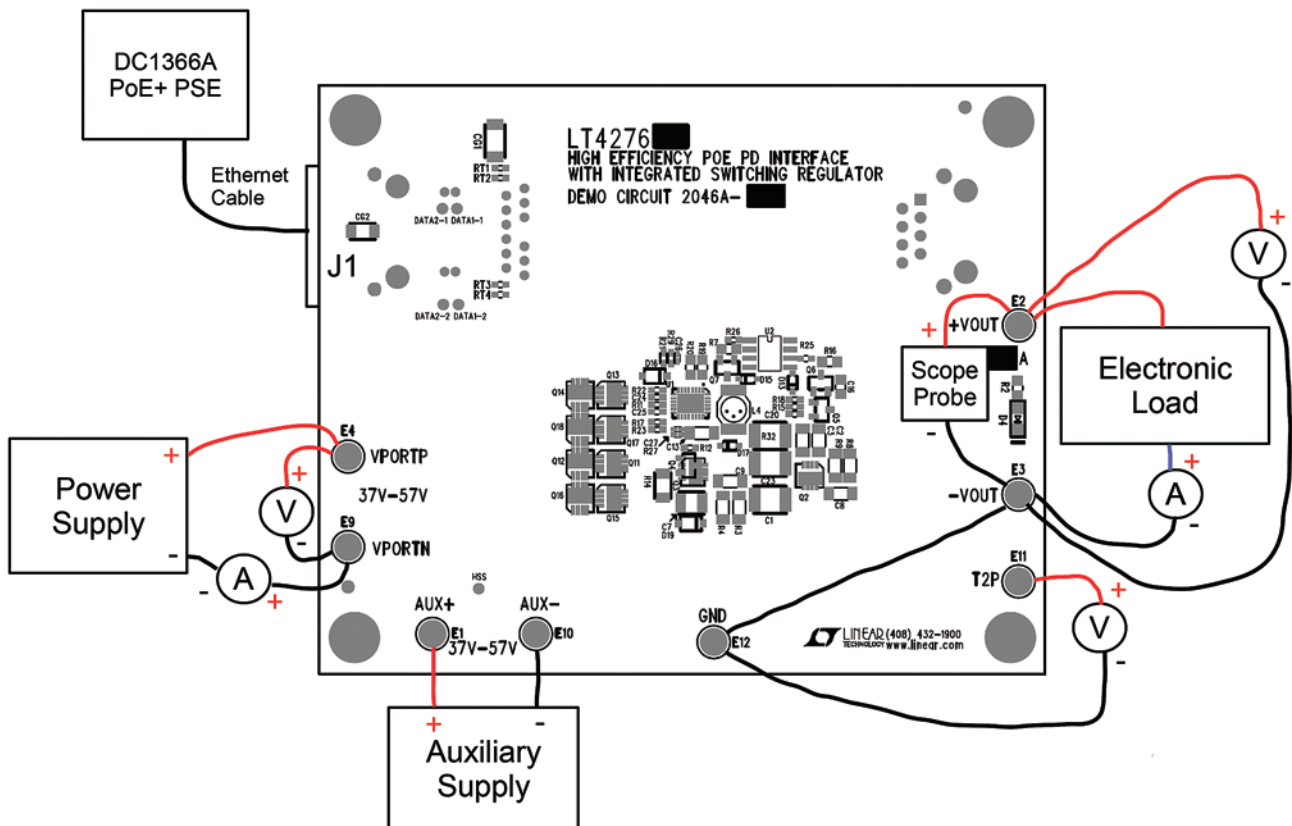

Figure 8. Proper Measurement Equipment Setup
Demonstration circuit 2046A-D is easy to set up to evaluate the performance of the LT4276 in a PoE+ application. Refer to Figure 8 for proper equipment setup and follow the procedure below:
1. Place test equipment (voltmeter, ammeter, power supplies, and electronic load) as shown in Figure 8.
- Connect a PoE+ capable PSE with a CAT-5 cable to the RJ45 connector, J1. See Figure 8.
- Or, connect a 37V to 57V capable power supply (Power Supply in Figure 8) across V_{PORTP} and V_{PORTN}.
- If evaluating the auxiliary power supply (Auxiliary Supply in Figure 8), connect a 37V to 57V capable power supply across AUX+ to AUX-.